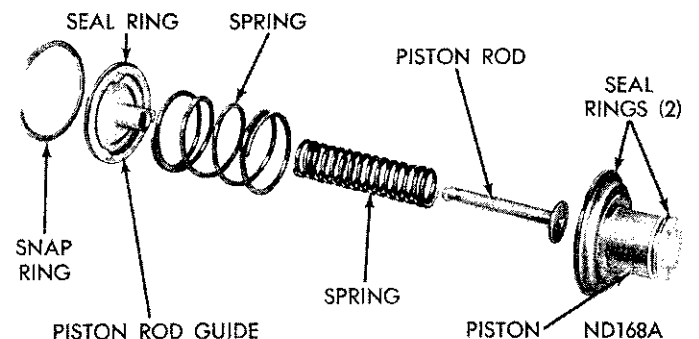

Fig. 70—Kickdown Servo
Figure 70 shows a disassembled view of the kick-down servo assembly. **The large outer spring shown in Figure 70 is not used in transmissions with "Hi-Performance" engines.**
(1) Carefully push servo piston into the case bore. Install piston rod, two springs and the guide (Fig. 70). The transmission used with "Hi-Performance" en-